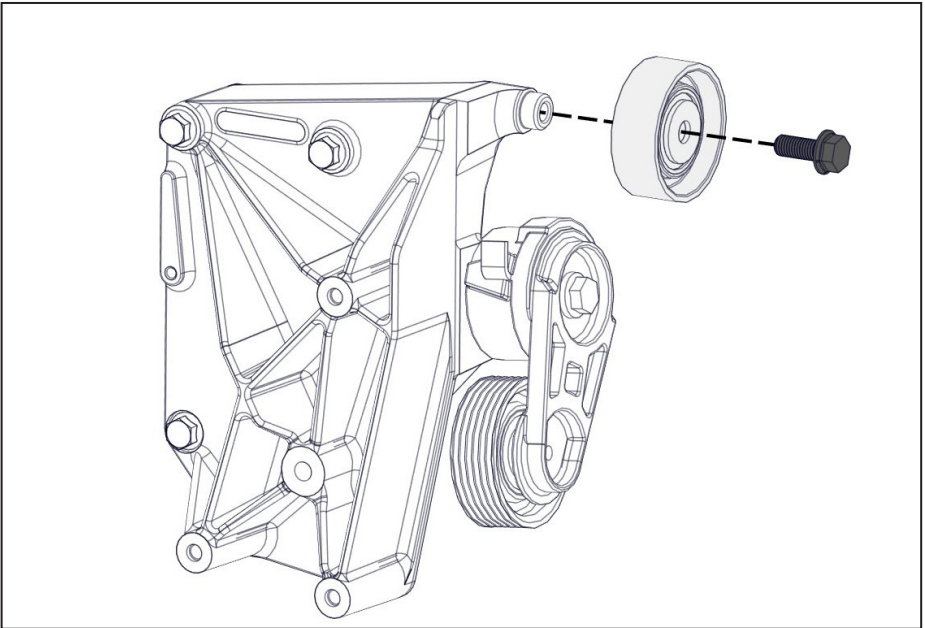

Figure 7 — Install main bracket idler
- Install one of the supplied idlers onto the VMAC main bracket (Figure 7).